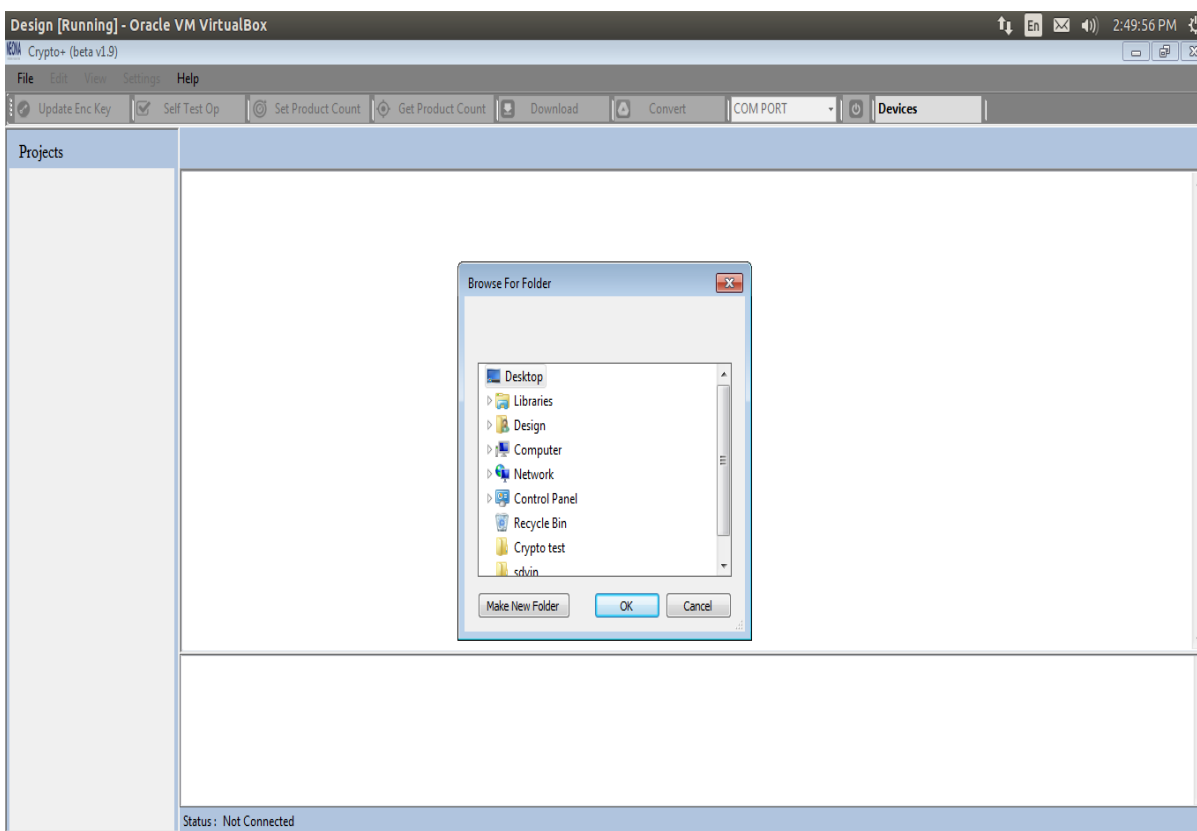

Figure 2.20
STEP 2: Browse for folder window appears as shown in figure 2.20.